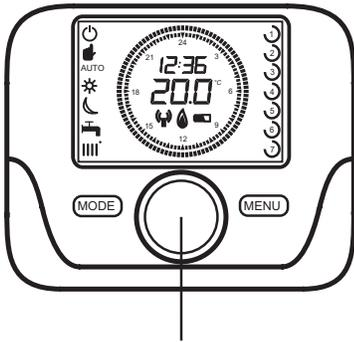

Fig. 16. Programmer & Room Sensor Selector Button
1. Start by setting up the Programmer & Room Sensor. Press and hold the Selector Button (Fig. 16) for approx. 6 seconds. 'HC 1' will be seen on the display.